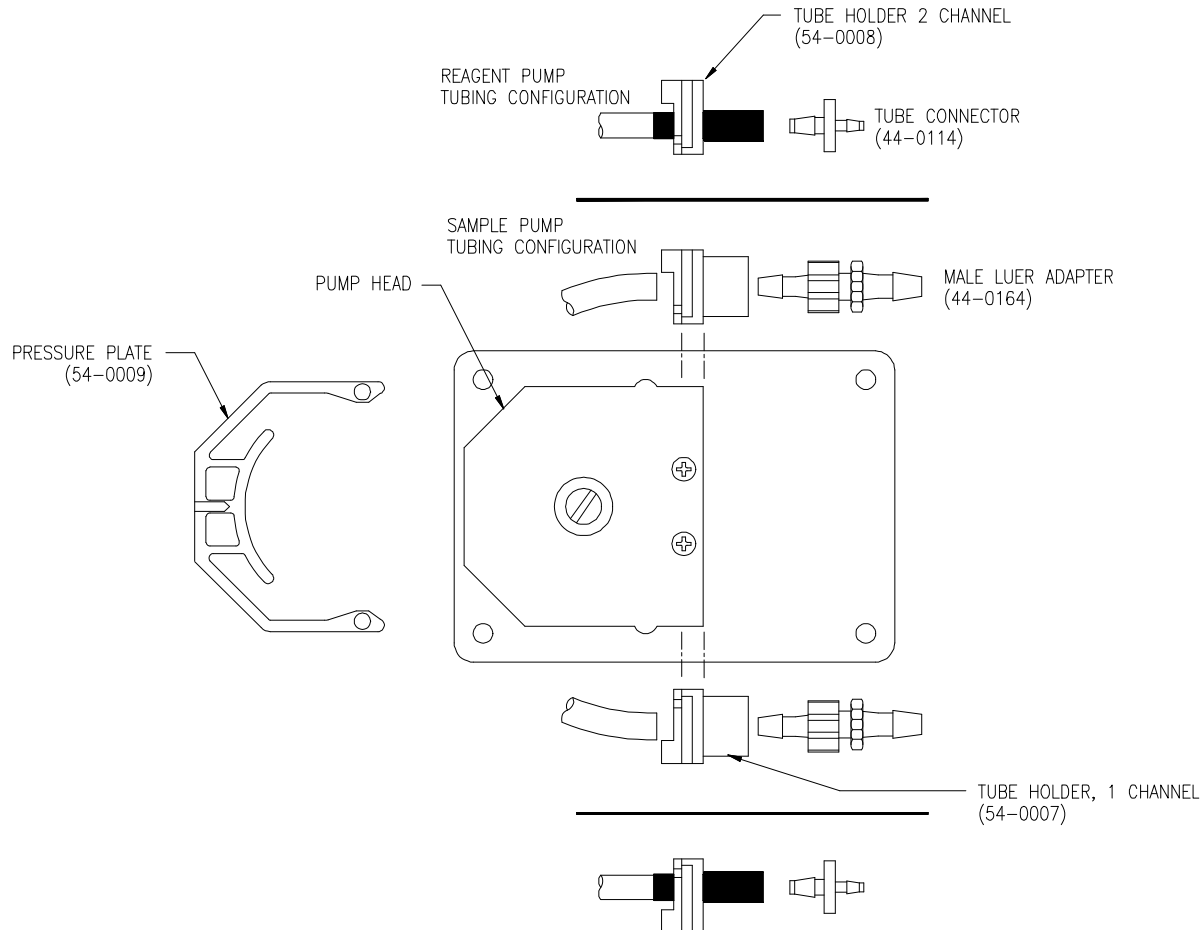

Figure 11 - Pump Head Assembly Exploded View
1. Remove the tubing clamp plate from the rear of the pump. This is done by gently pressing in on the sides of the plate and pulling it backward. See Figure 11 for an exploded view.